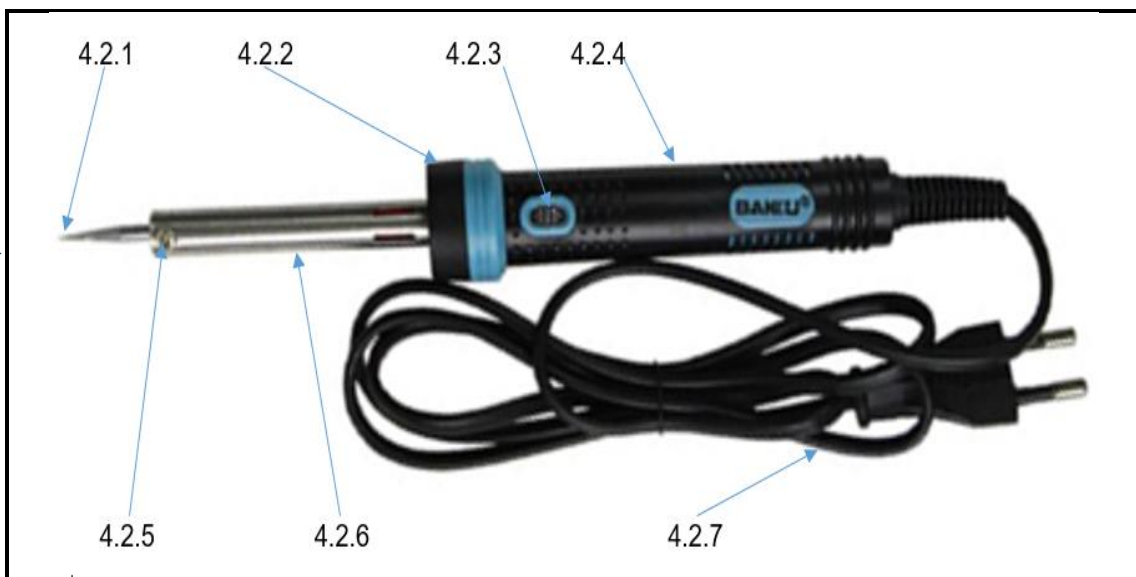

FIGURE 2
4.2 Name the main parts that make up the soldering iron system shown in FIGURE 2 below by writing only the answer next to the question number (4.2.1–4.2.7) in your ANSWER BOOK.